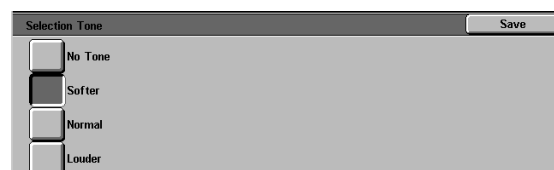

Figure 13: Selection Tone screen
- For the Selection, Conflict, and Fault tones, touch **No Tone**, **Softer**, **Normal**, or **Louder**. See Figure 13.